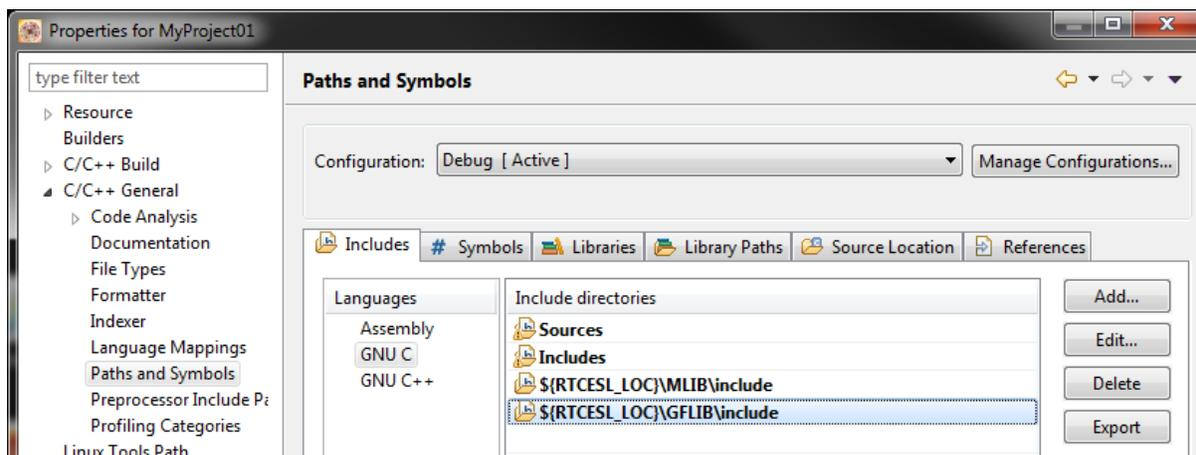

Figure 1-22. Compiler setting
15. In the right-hand dialog, select the Includes tab, and click GNU C in the Languages list. See Figure 1-22.
20. Click OK, and you will see the paths added in the list. See Figure 1-22. Click OK.